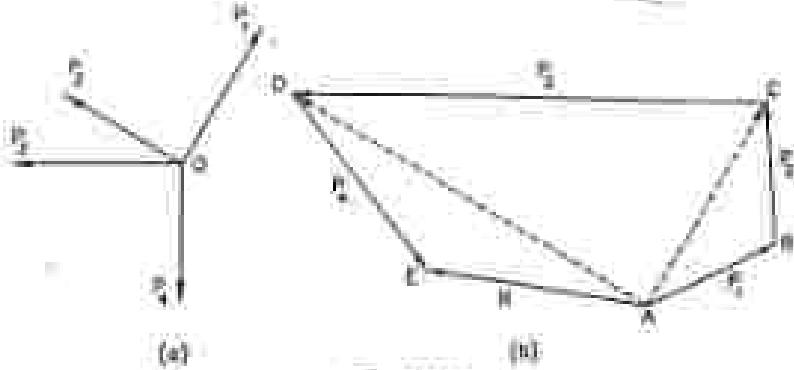

Fig. 1.19.
- Let forces P_1 , P_2 , P_3 and P_4 acting at a point O be such that they can be represented in magnitude and direction by the sides AB, BC, CD and DE of a polygon ABCDE as shown in fig. 1.19.